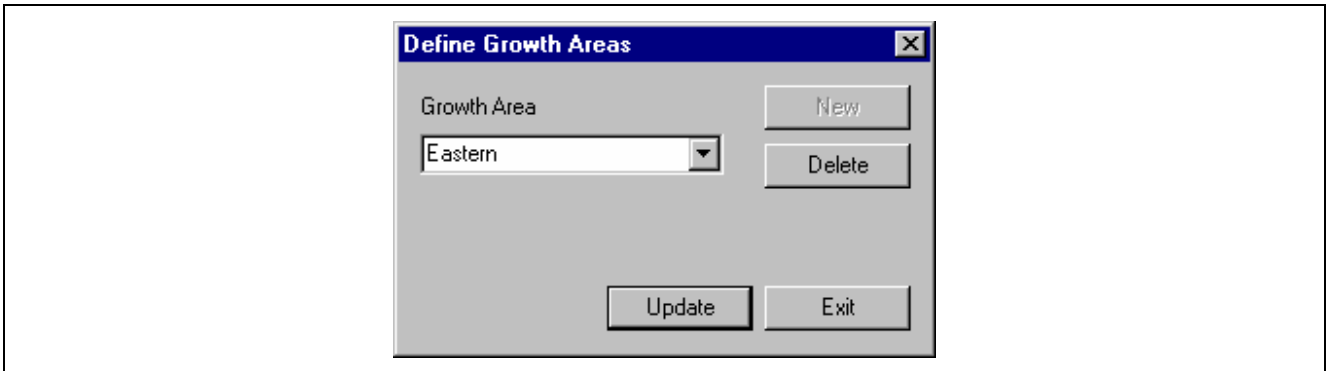

Fig. 6-65 Define Growth Areas, Screen II
21.1 Select New. "New Growth Area" will appear. Highlight it and type in Eastern, followed by selecting Update. The Bale Manager window of Fig. 6-65 will appear.
21.4 Select New, highlight it and type in Western followed by selecting Update. The Bale Manager window of Fig. 6-65 will re-appear.